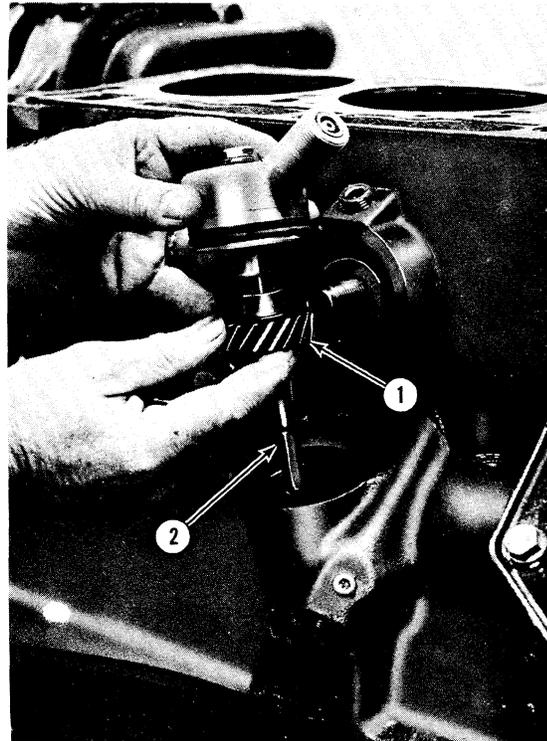

Figure 25
6. **OIL PUMP:** Install the oil pump drive gear assembly, tachometer drive fitting (A-62 only), stop and plug, Figure 25.